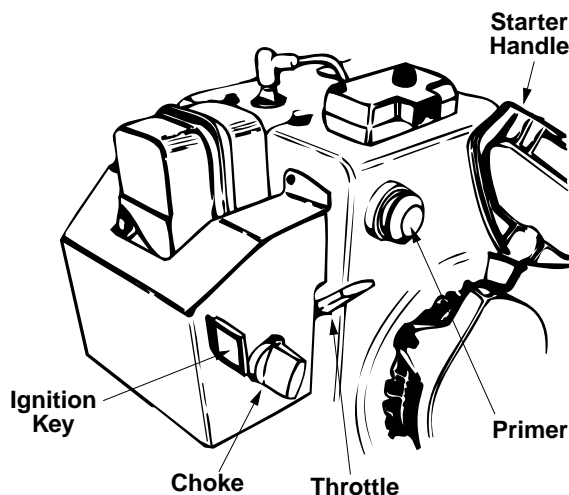

Figure 21
THROTTLE CONTROL (See Figure 21)
SAFETY IGNITION SWITCH (See Figure 21)
4. Move throttle control up to FAST position. Insert ignition key into slot. See Figure 21. Be certain it snaps into place. Do not turn key.
2. Move throttle control up to FAST position. Insert ignition key into slot. Refer to Figure 21 on page 11. Be certain it snaps into place. **Do not** turn key.
4. Push primer button two or three times. Refer to Figure 21 on page 11. If engine is warm, push primer button once only.
5. Grasp starter handle (refer to Figure 21 on page 11) and pull rope out slowly, until it pulls slightly harder. Let rope rewind slowly.